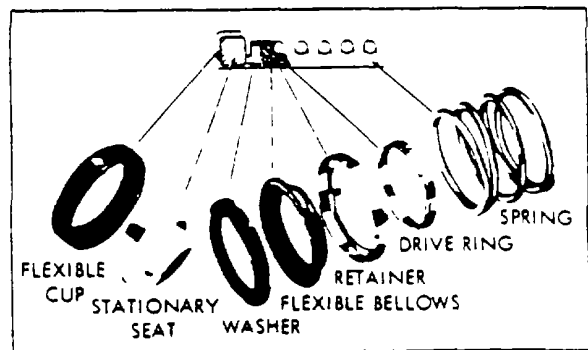

Figure 1. Mechanical Seal
- III. Place the seal's spring, drive ring, retainer, flexible bellows, and washer on shaft sleeve in respective order (Refer to Figure 1.)
- IV. Thoroughly inspect cavity of seal gland (49) for burrs or nicks which could damage the seat of seal. Apply a film of liquid detergent to seal seat and install it in seal gland cavity, taking care to seat it evenly and squarely
order shown in figure 1, for each half of double seal assembly (53).
- III. Place "O" rings (50) around the seal glands (49) and slide seal glands onto ends of the shaft with stationary seats facing impeller.
- 6. Place slinger (39) onto outboard end of shaft (71).
- 7. Press grease seal (37) into bearing cartridge (36). Place outboard double row ball bearing (38) in bearing cartridge and press parts onto outboard end of shaft. Snap retainer ring (35) in place to secure outboard bearing. Place gasket (34) and cartridge cap (32) in position and secure it with capscrews (31).